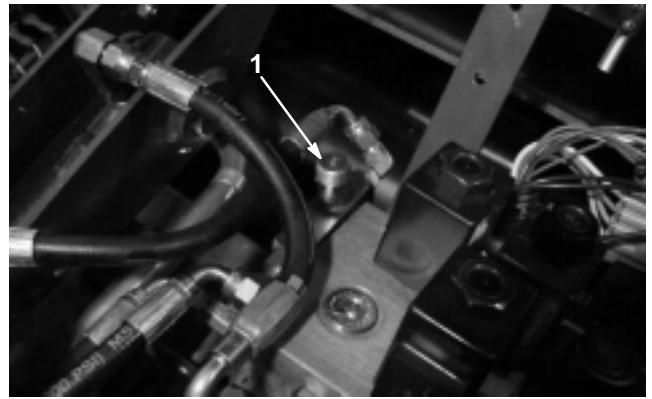

Figure 55
The cutting unit lift/drop circuit is equipped with a flow control valve (Fig. 55). This valve is preset at the factory at approximately 3 turns open, but an adjustment may be required to compensate for differences in hydraulic oil temperatures, mowing speeds, etc. If an adjustment is required, proceed as follows:
1. Raise the seat and locate the flow control valve for the center pull frame (Fig. 55) which is located next to the hydraulic manifold.